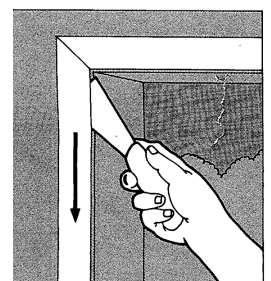

Figure 2B-1
2. With your utility knife (or a strong putty knife) slip the blade into the seam between the door jamb and the facing board at the top of the jamb (Figure 2B-1).